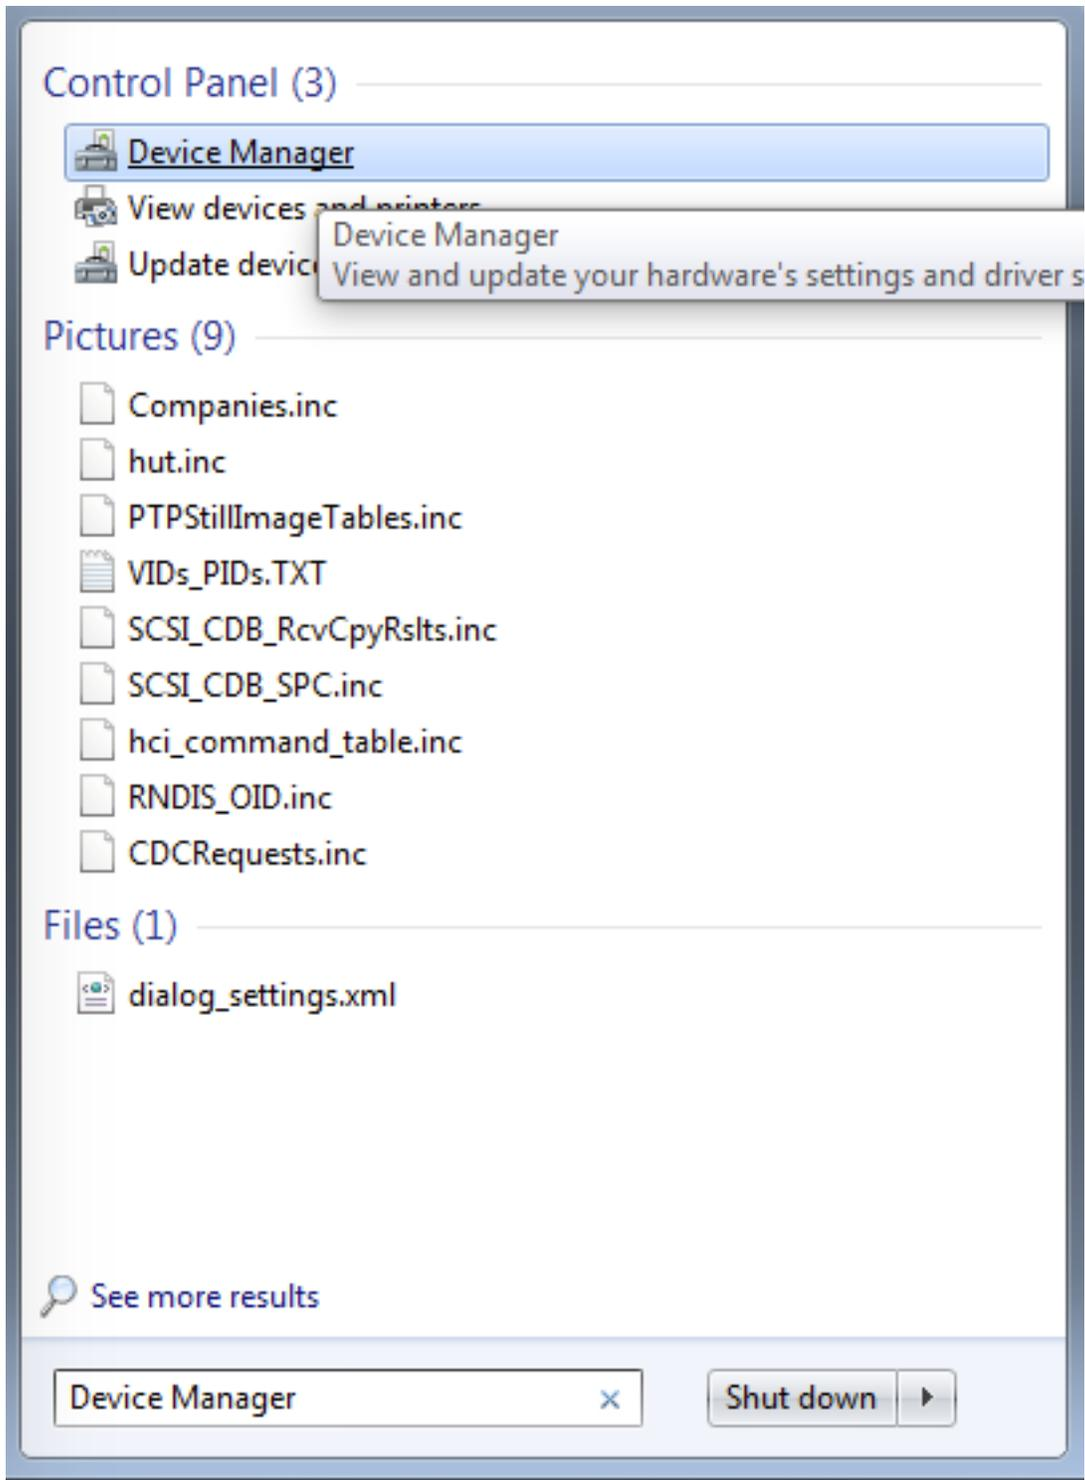

Figure A-1. Device manager
1. To determine the COM port, open the Windows operating system Device Manager. This can be achieved by going to the Windows operating system Start menu and typing **Device Manager** in the search bar, as shown in Figure A-1.